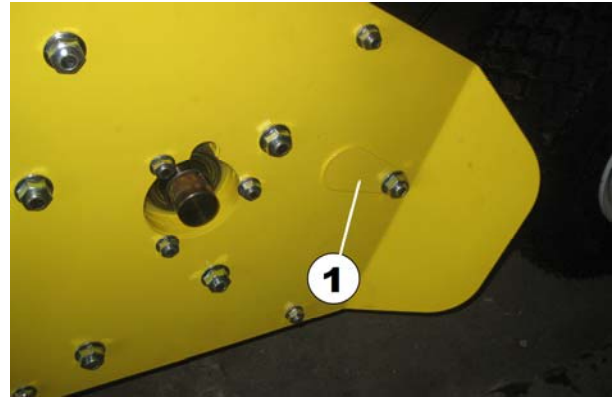

Figure 21. Access Hole Location
3. If working on a right end cam bearing, loosen the bolt retaining the cover tab and move the tab for clearance to the access hole for removal of the bearing retaining bolt. See Figure 21.